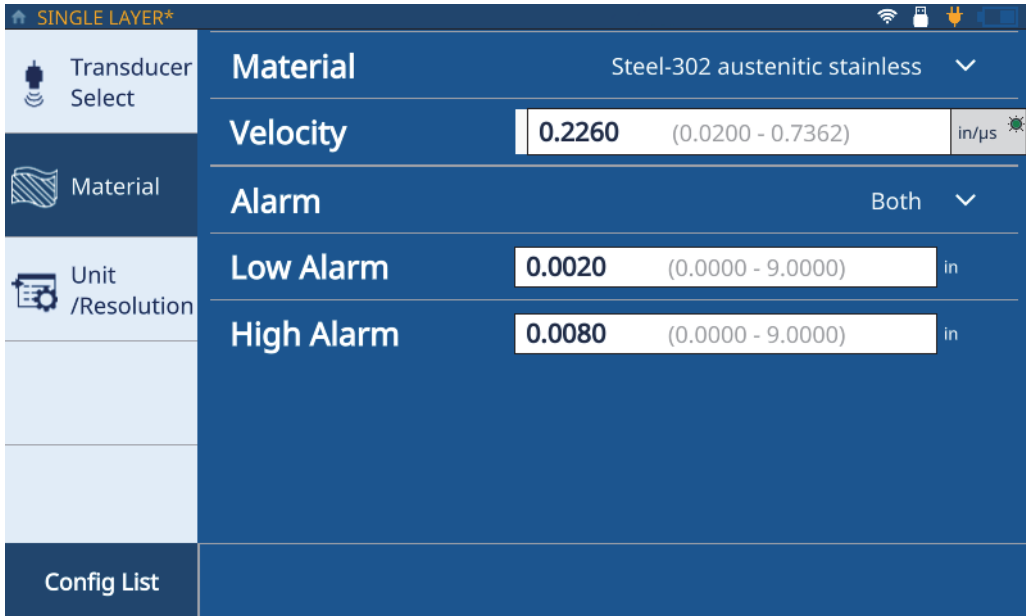

Figure 2-3 Single Layer Material Tab
8. Click the **Material** tab (See Figure 2-3 on page 15), and then select your material from the drop-down list. The gauge automatically updates the velocity based on the material selected.